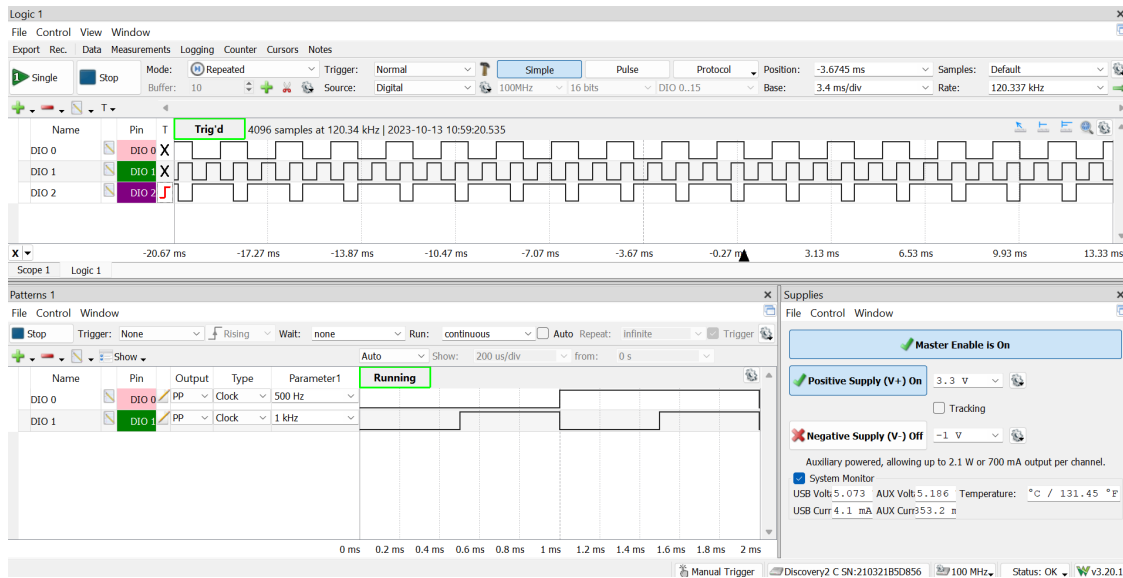

Figure 12: Confirmation of working NAND gate with DIO 0 and 1 as inputs and DIO 2 as the NAND's output.
- This configuration is visible in Figure 12. I set up DIO 0 and 1 to pulse at different frequencies so I could get all 4 possible input states (since each of the two inputs can take two values). In my case, I had DIO 0 pulsing at 500 Hz and DIO 1 at 1 kHz.